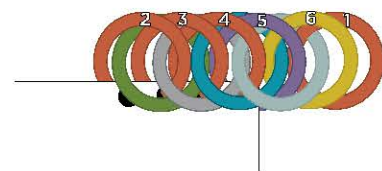

FIG. 8
15. Thread the open jump ring through the base-row (yellow) jump ring at the finishing end of the chain, moving right to left from behind it. Then thread the open jump ring through the 2 adjacent base-row (orange/purple) jump rings, moving left to right from the front. Close the open jump ring (**FIG. 8**).